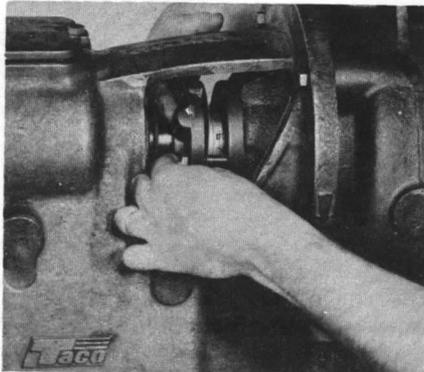

Fig. 9 — Reassembling Seal Ret. Cap
Before reassembling suction cover (1) insert the two side cap bolts (30) through seal retainer cap (32) and cap gasket (28) and slide them towards rear end of casing (8) (Fig. 9). Start bolts in threaded holes and take up cap evenly by turning bolt (30) alternately on each side. Do this operation very carefully in order not to break seal. When cap reaches casing (8) insert also top and bottom bolt (30) and tighten all four alternately and evenly.